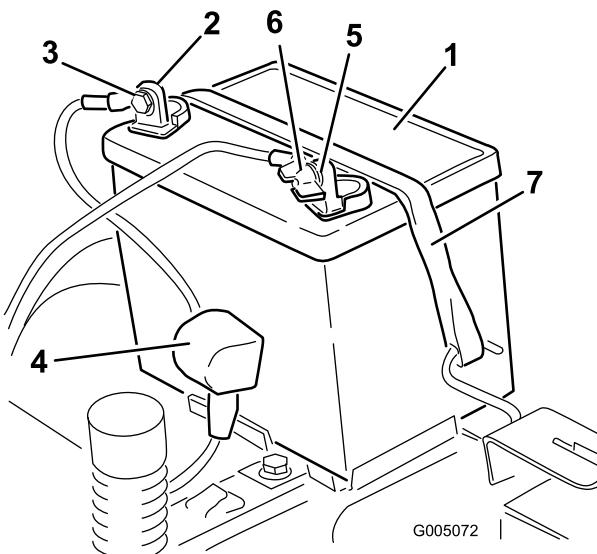

Figure 35
4. Disconnect the negative (black) ground cable from the battery post (Figure 35). Retain all fasteners.
5. Slide the rubber cover up the positive (red) cable. Disconnect the positive (red) cable from the battery post (Figure 35). Retain all fasteners.
6. Remove the battery hold-down (Figure 35) and lift the battery from the battery tray.
1. Position the battery in the tray with the terminal posts toward the operating position (Figure 35).
5. Secure the battery with the hold-down (Figure 35).